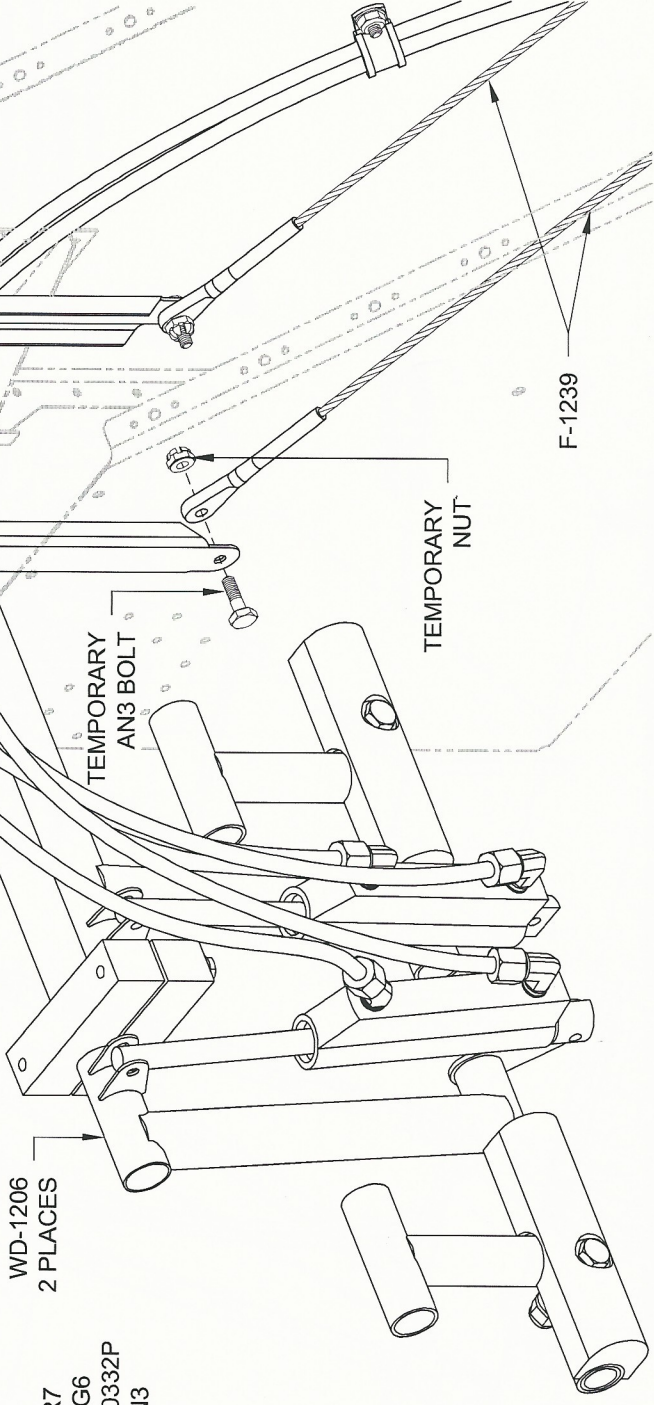

FIGURE 4: ATTACHING RUDDER CABLES TO RUDDER PEDALS
Step 7: Temporarily attach the spade ends of the F-1239 Rudder Cables to the horns on the WD-1206 Rudder Pedals as shown in Figure 4. (Secure the aft end of the rudder cables with wire or string so that they are not pulled back through the F-1211 Bulkhead.)